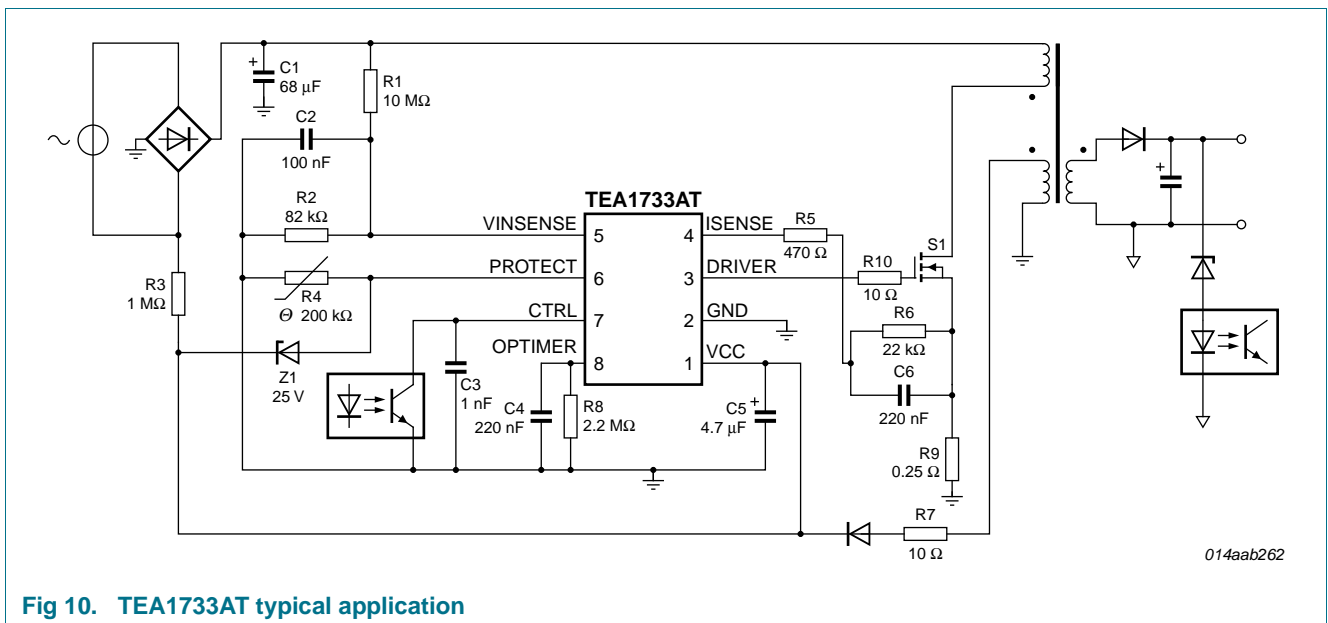

Fig 10. TEA1733AT typical application
A power supply with the TEA1733AT is a flyback converter operating in Continuous conduction mode (see Figure 10).
In the example shown in Figure 10, the PROTECT pin is used for OVP and OTP. The OVP level is set by diode Z1 to  $V_{CC} = 25.8$  V. The OTP level is set by Negative Temperature Coefficient (NTC) resistor R4. The VINSENSE pin is used for mains voltage detection and resistors R1 and R2 set the start voltage to about 80 V (AC). The overpower protection time is defined by capacitor C4 at 60 ms.